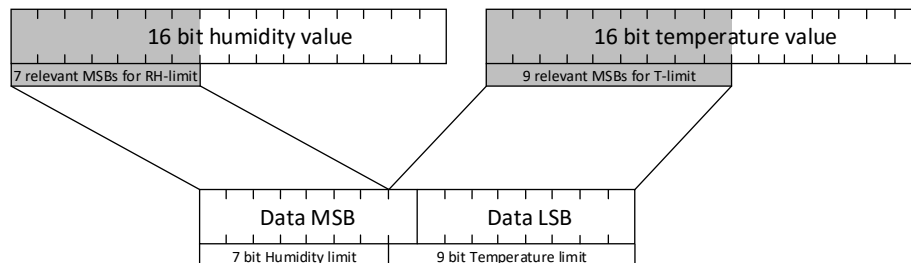

Figure 7.2 Relevant Bits for the limits
The sensor stores the limit information in a simplified data format. The standard data format width of NSHT30 acquisition data is 16-bit. So, only the most significant bit (MSB) is used to determine whether the alert setting conditions are met (where the humidity is 7 bits and the temperature is 9 bits), as shown in Figure 7.2.
As shown in Figure 7.2, the reduced data format is given.
5. Combine the reduced values (step 3 and 4) according to Figure 7.2